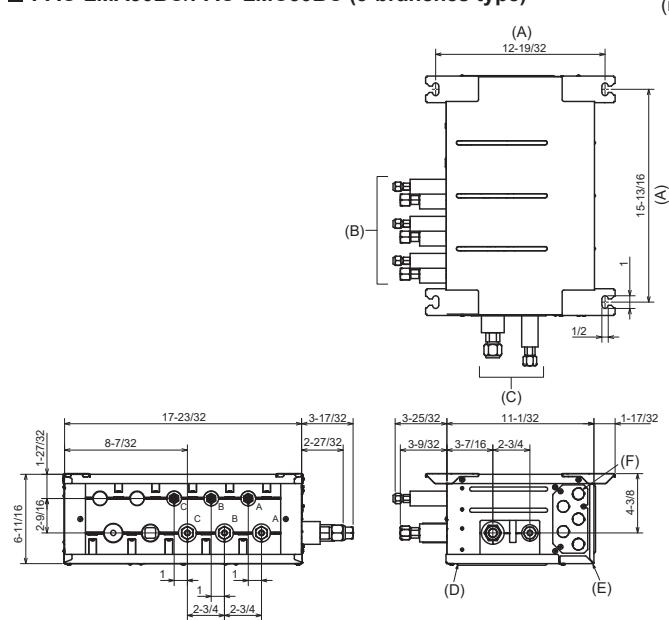

Fig. 4-4
■ PAC-LMA30BC/PAC-LMC30BC (Fig. 4-4)